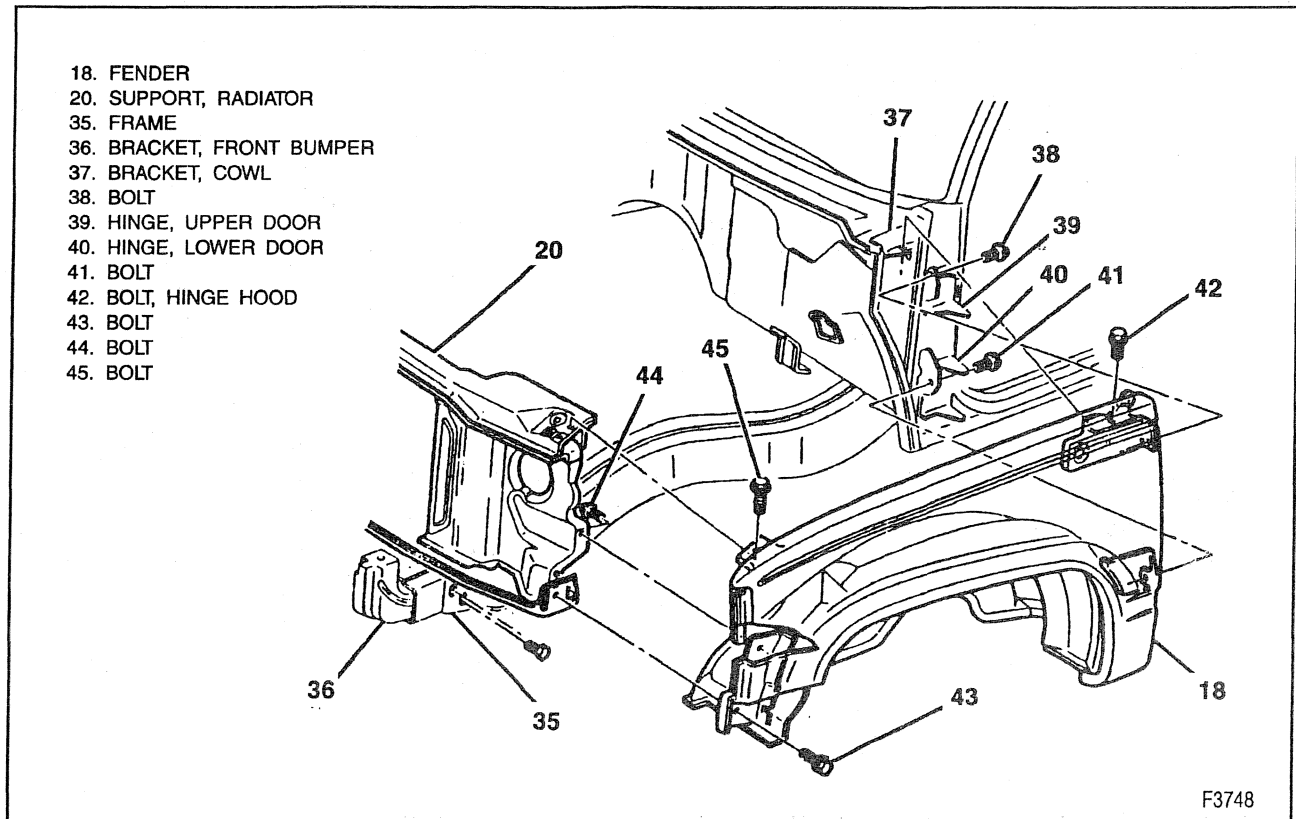

Figure 10—Fender to Vehicle Attachment
14. Bolt by reaching up behind the wheelhouse (figure 10).
6. Bolt by reaching up behind the wheelhouse (figure 10).
12. Bolt by reaching up behind the wheelhouse (figure 10).
14. Bolts holding the fender to the door hinges (figure 10).
2. Bolt from inside the engine compartment (figure 10).